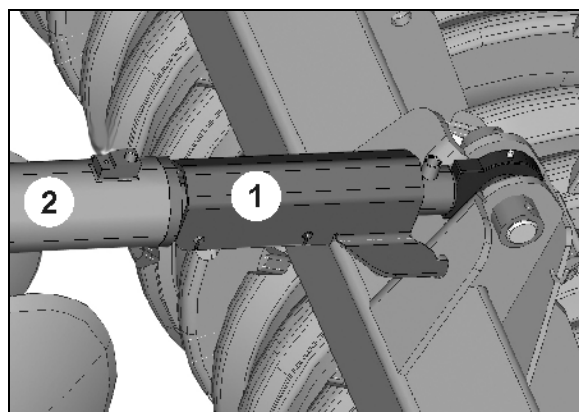

Fig. 31
1. Lock the hydraulic cylinder (Fig. 31/2) with the blocking device (Fig. 31/1).